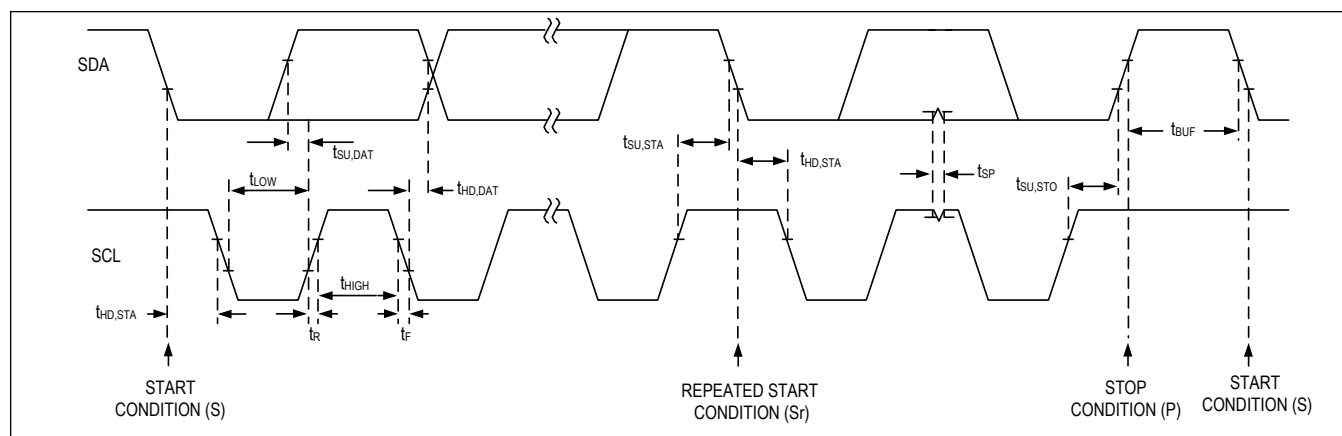

Figure 5. I2C Serial-Interface Timing Diagram
SDA and SCL idle high when the bus is not in use. A controller initiates communication by issuing a START condition. A START condition is a high-to-low transition on SDA with SCL high. A STOP condition is a low-to-high transition on SDA while SCL is high. A START condition from the controller signals the beginning of a transmission to the device. The controller terminates transmission, and frees the bus, by issuing a STOP condition. The bus remains active if a Repeated START condition is generated instead of a STOP condition; this is often used in combined-format read operations. See Figure 5 for examples that show the generation and proper use of START (S), STOP (P), and Repeated START (Sr) conditions.
A command byte follows the target address. A command byte is typically followed by one or two data bytes unless it is the last byte in the transmission, as would be the case for readback operations (see Figure 5). If data bytes follow the command byte, the command byte indicates the address of the register that should receive the data bytes that follow. The data bytes are stored in a temporary register and then transferred to the appropriate register during the ACK periods between bytes.